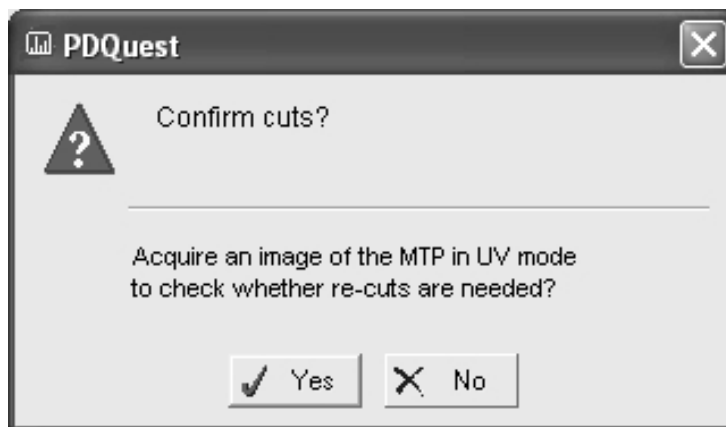

Figure 5-6. Confirm cuts pop-up.
1. The "Confirm cuts?" pop-up box automatically appears at the end of a cut run (see Figure 5-6, below) when the gel has been imaged with the "UV EPI" light. Click **Yes** to acquire an image of the microplates or **No** to return to the "Manual Excision Tool" window.